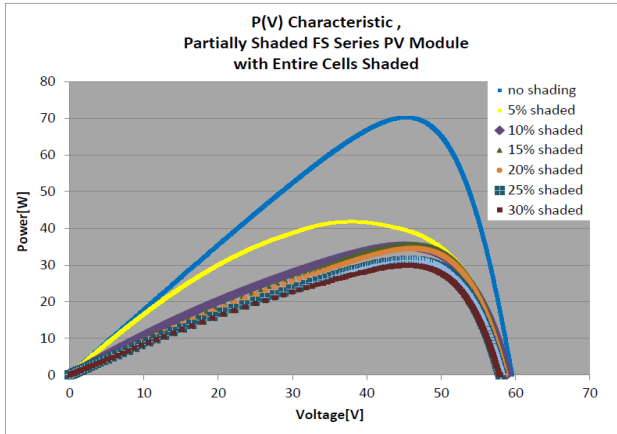

Figure 3: FS Series PV Module P(V) curves with some cells entirely shaded along 600mm dimension
This effect is also evident in Figure 3, which shows P(V) curves corresponding to the I(V) curves shown which indicates that the module ceases producing power when more than half of the cells are entirely shaded.